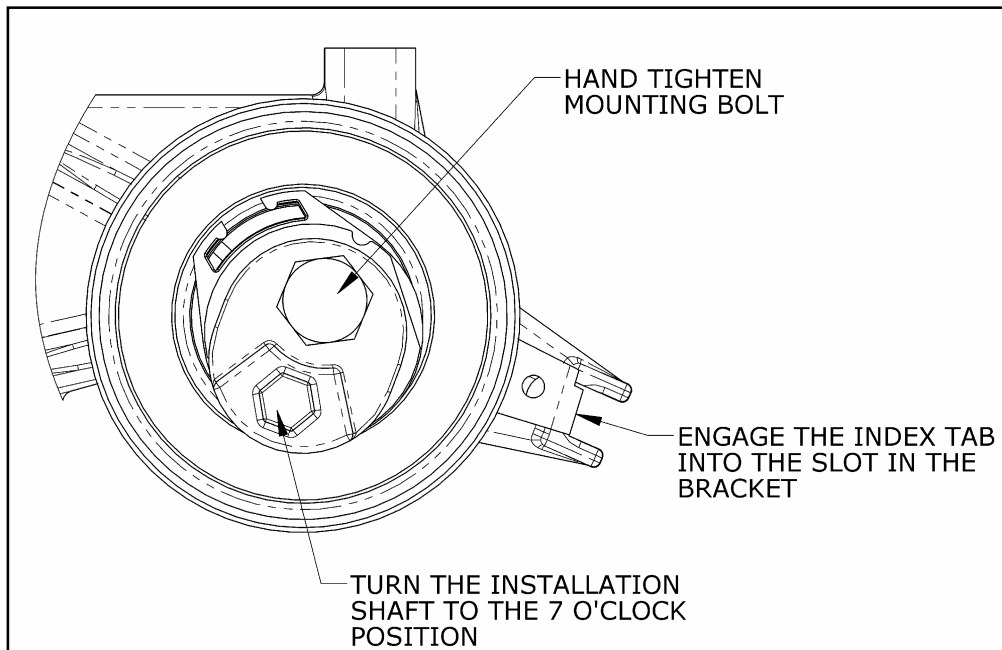

Figure 4: Initial setup of the Tensioner
6. Rotate the installation shaft on the tensioner using 8mm Allen Key to the approximate "7 O'clock position" (Fig. 4). This will maximize the belt clearance for ease of installation. Hand tighten (lightly) the mounting bolt on the bracket.